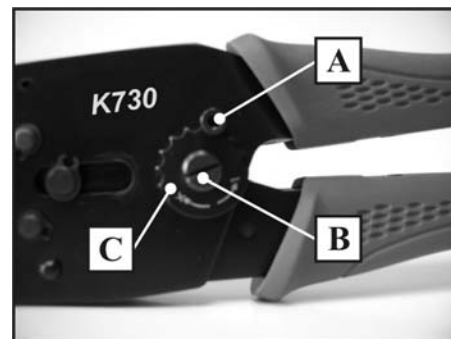

Fig. 3.
1. Loosen and remove allen head screw (A) using a 2.5 mm allen wrench. (Fig.3.)
2. Using a screw driver turn eccentric axle (B) and toothed adjustment wheel (C) into new position.